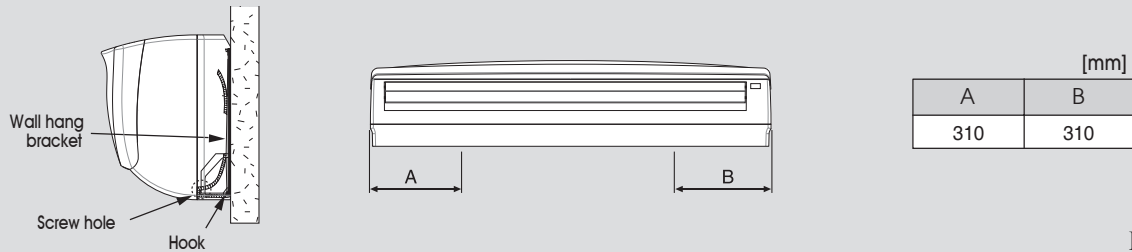

Figure 12
- Pass the pipes through the wall sleeve and then hook the indoor unit body onto the top of the wall hang bracket. (Figure. 12)
- After installation, if there is a significant gap between the unit and wall, it can be adjusted by securing 2 screws to the body and wall hang bracket. Refer to the screw hole location(A, B) in Figure 12.
- Removing the frame grille ; ① Detach terminal block cover by removing two screws and remove two screws from frame grille.
② Pull the triangle marks located at the bottom of the frame grille and lift frame grille to the top of the unit.